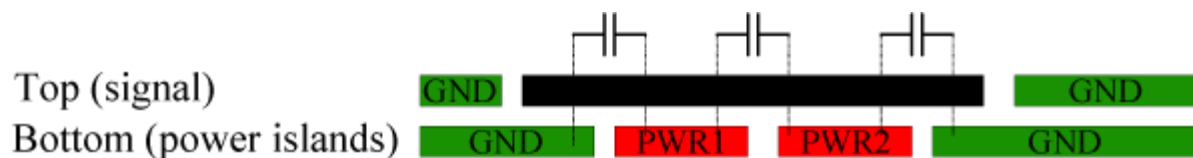

Figure 5-1: Layer Stackup Power and Ground decoupling
- Decouple ground planes as practical, as shown below in Figure 5-1. This will allow short (direct) return current paths when signal traces are re-referenced to different power island planes.